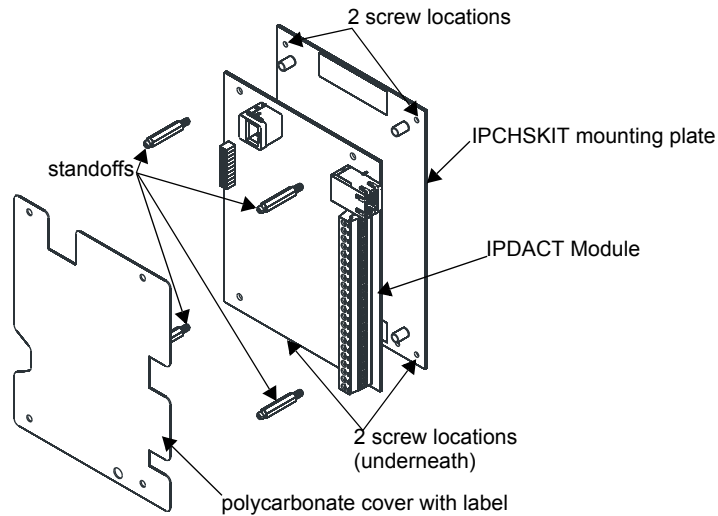

Figure 4 IPCHSKIT Installation
1. Secure the IPDACT Module to the IPCHSKIT mounting plate using the four supplied standoffs as illustrated in Figure 4.